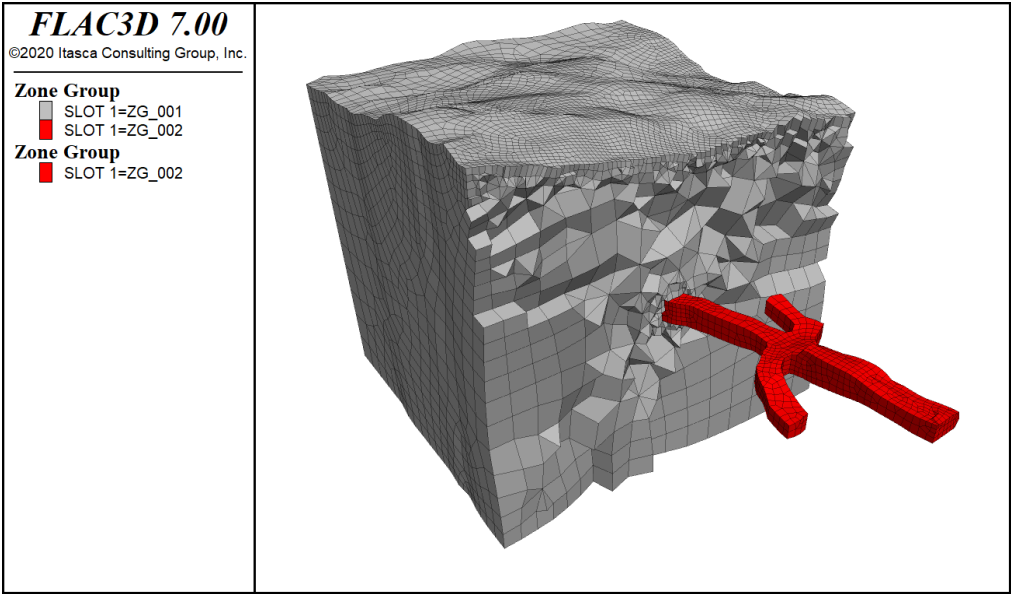

Figure 74: Final volume mesh obtained from the cleaned-up DXF meshes.
**Yes** to continue with volume meshing (naked edges are present in the final model due to mesh extraction done earlier). Meshing may take some time due to the fine resolution of the topographic and drift meshes. The results of the volume mesh imported in *FLAC3D* are shown in Figure 74.